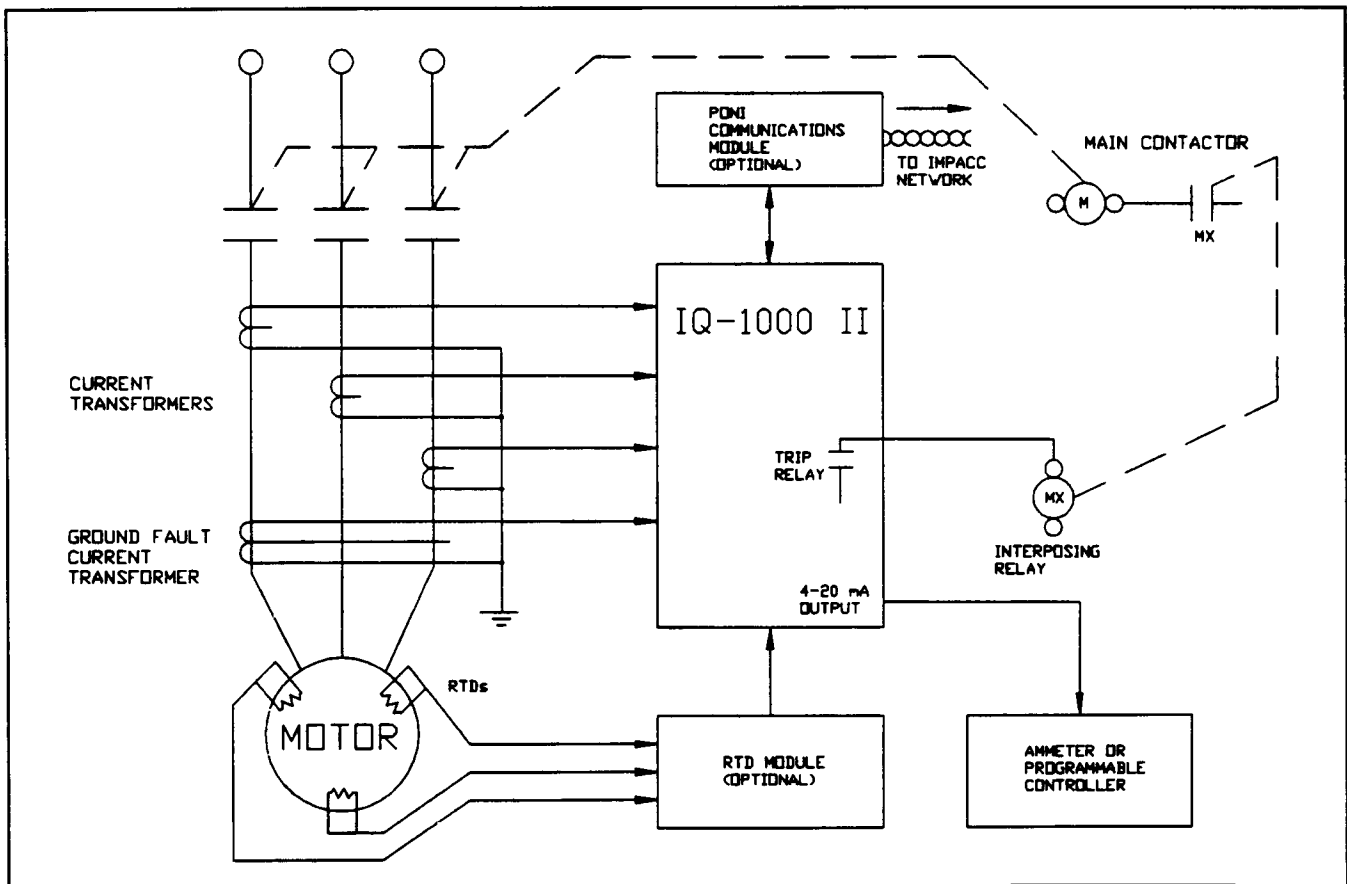

Figure 3.1 — System Overview (Simplified)
3.1 Sensing Inputs — The IQ-1000 II receives motor current sensing derived from 3 separate current transformers, each of which monitors one phase of an AC line to the motor (see Figure 3-1). If an optional zero sequence ground fault transformer is used, the IQ-1000 II monitors ground fault current levels and compares them to a user-selected setpoint. If optional RTDs are used, the IQ-1000 II gathers winding temperature data from six RTDs embedded in the stator windings of the motor. Four RTDs associated with the motor bearings and load bearings can also be monitored for tempera-